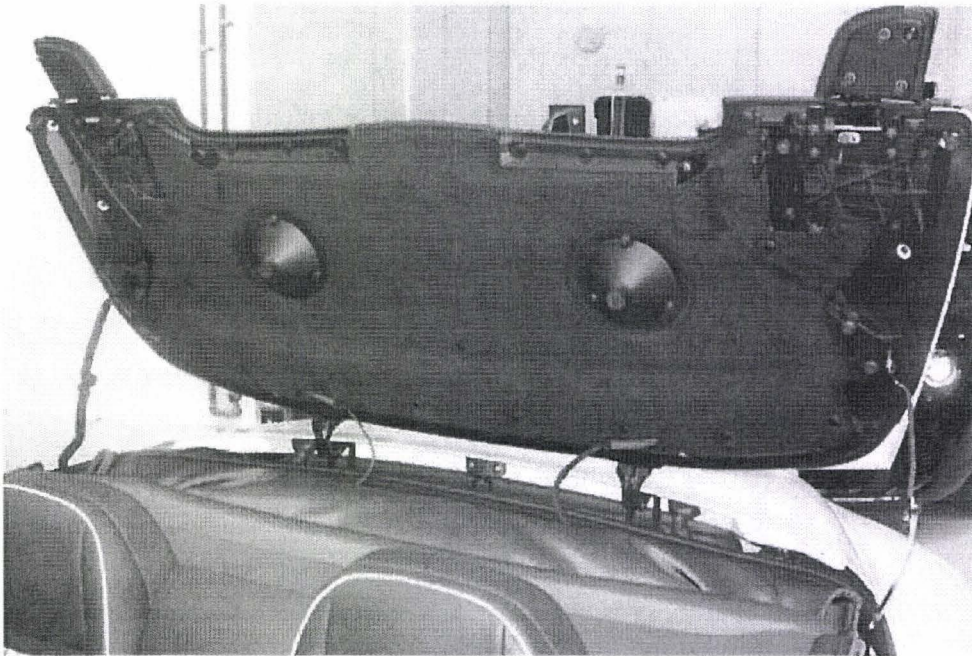

Figure 6
- The overload switch should be adjusted with the boot closed and the hood is fully stowed positioned the tonneau cover in the service position (Figure 6)